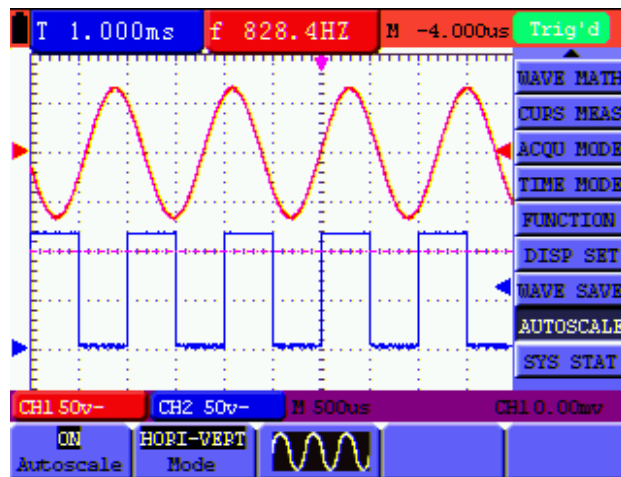

figure 50: Autoscale Horizontal- Vertical multi-period waveforms
6. Press **F3** and  displays on the screen as figure 50: